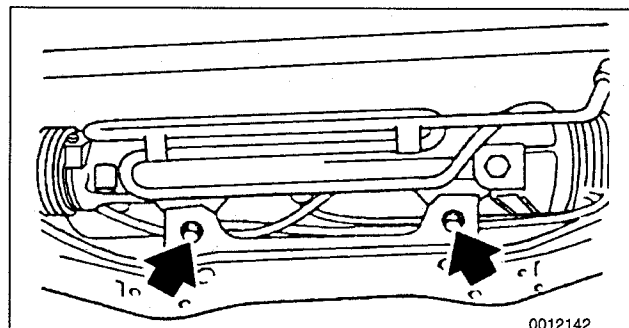

Fig. 7. Steering gear mounting bolts (arrows).
9. Remove steering gear mounting bolts. See Fig. 7. Remove steering gear from subframe crossmember by pulling it forward.